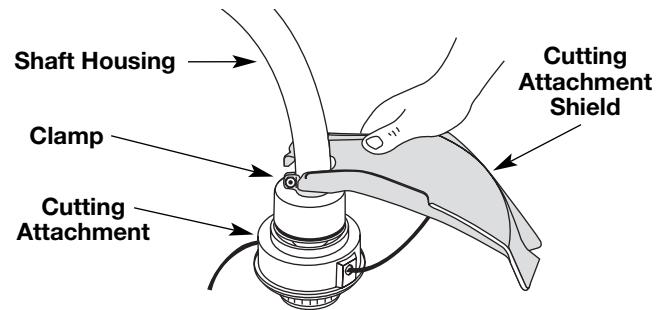

Figure 3
1. Place the cutting attachment shield onto the shaft housing above the clamp assembly. See Figure 3.